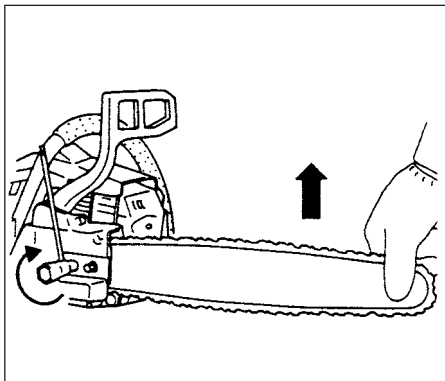

Fig.1-4
PROPER TENSION IS EXTREMELY IMPORTANT! (Fig.1-4, 5)
6. Raise the bar end and securely tighten the chain bar clamp nuts with the box wrench. (Fig. 1-4)